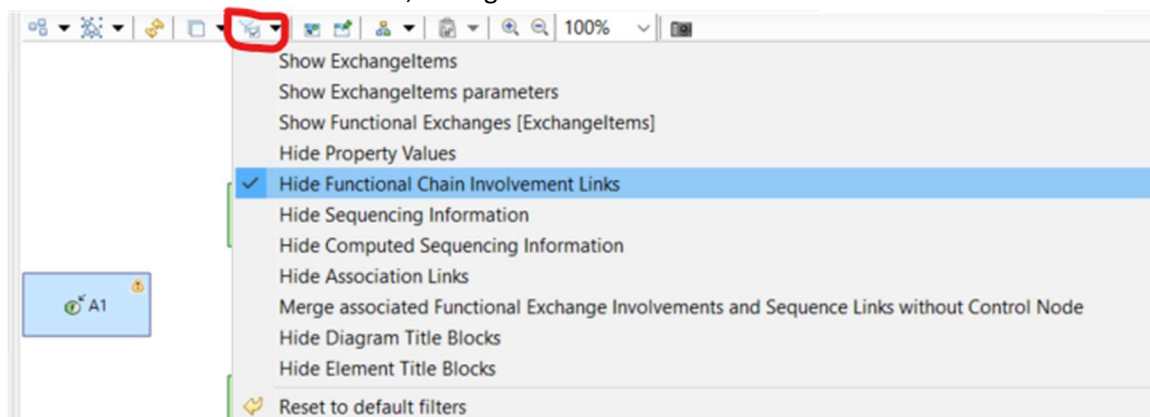

Figure 4 Hide Functional Chains
- First hide the functional exchanges by clicking on drop-down menu of Filters and selecting Hide Functional Chain Involvement Links, see Figure 4.